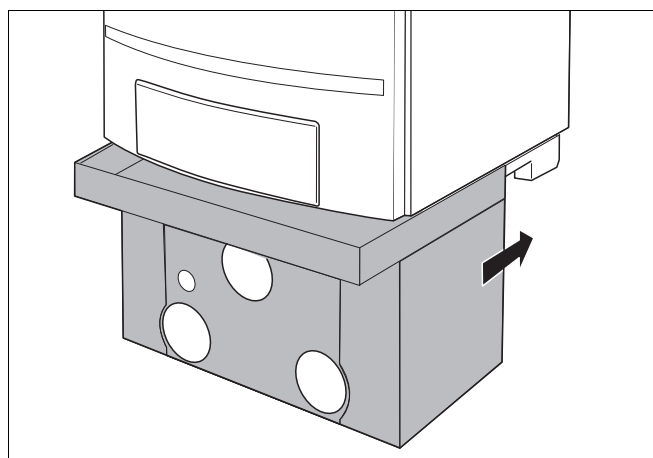

fig. 23 Installing the insulation cover
- Feed the insulation cover with its upper edge into the groove in the lower support (fig. 23).